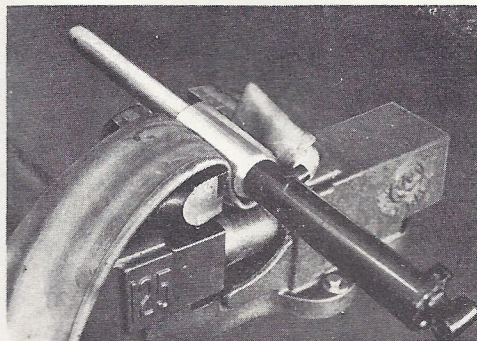

Fig. 4-3-6
- b. Place a rubber pad or rubber tube around the outer tube nut, and put pinch it with a vice. Then, turn the outer tube counterclockwise, and the inner tube can be removed from the outer tube. (Figs. 4-3-6 and 7)